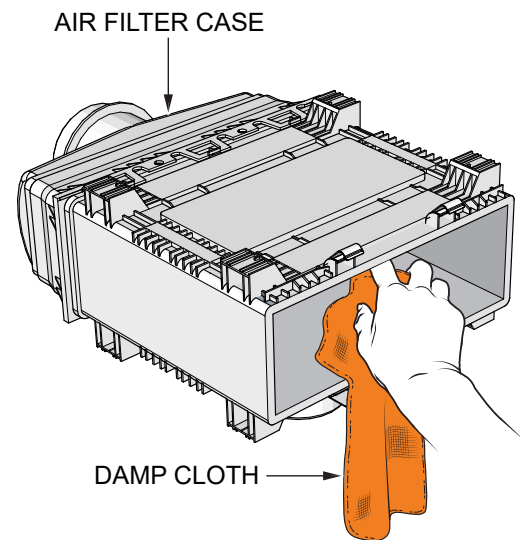

Figure 36. Cleaning Air Filter Body
8. Using a mild detergent and a damp cloth, clean the inside of the air cleaner case/body as referenced in Figure 36.